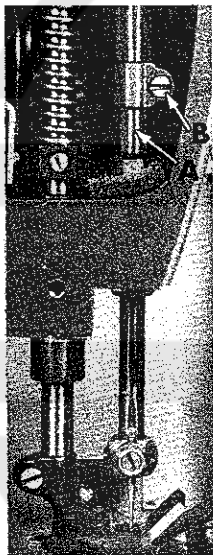

Fig. 5
The height of the needle bar (A, Fig. 5) is correct when the top of needles' eyes are 1/32 inch (.79 mm) below the underside of loopers, with looper points flush with front side of needles. If adjustment is necessary, loosen screw (B) and move needle bar (A) up or down as required and retighten screw (B). Care must be taken not to disturb alignment of needle bar when moving it either up or down.